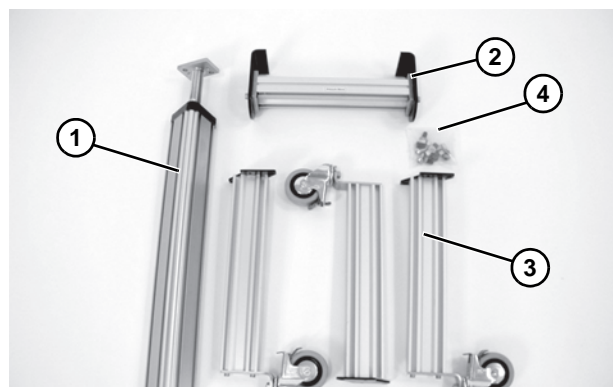

Figure 3
1. Typical components (Figure 3).
2. Open hardware pack, single post stand (Figure 3, item 4).